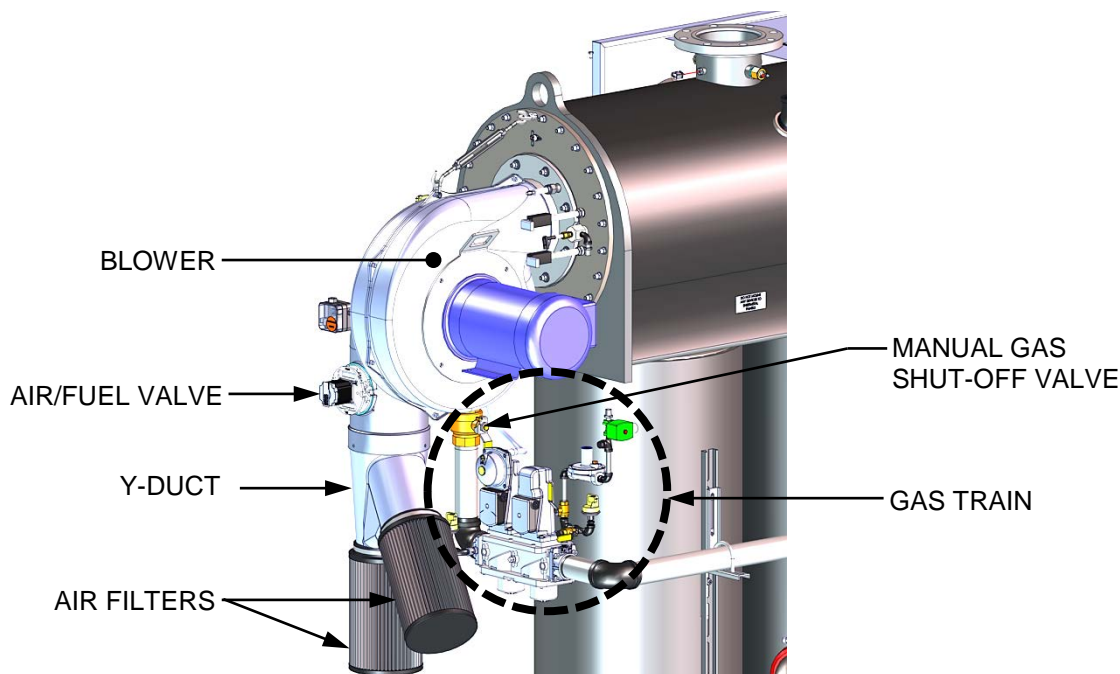
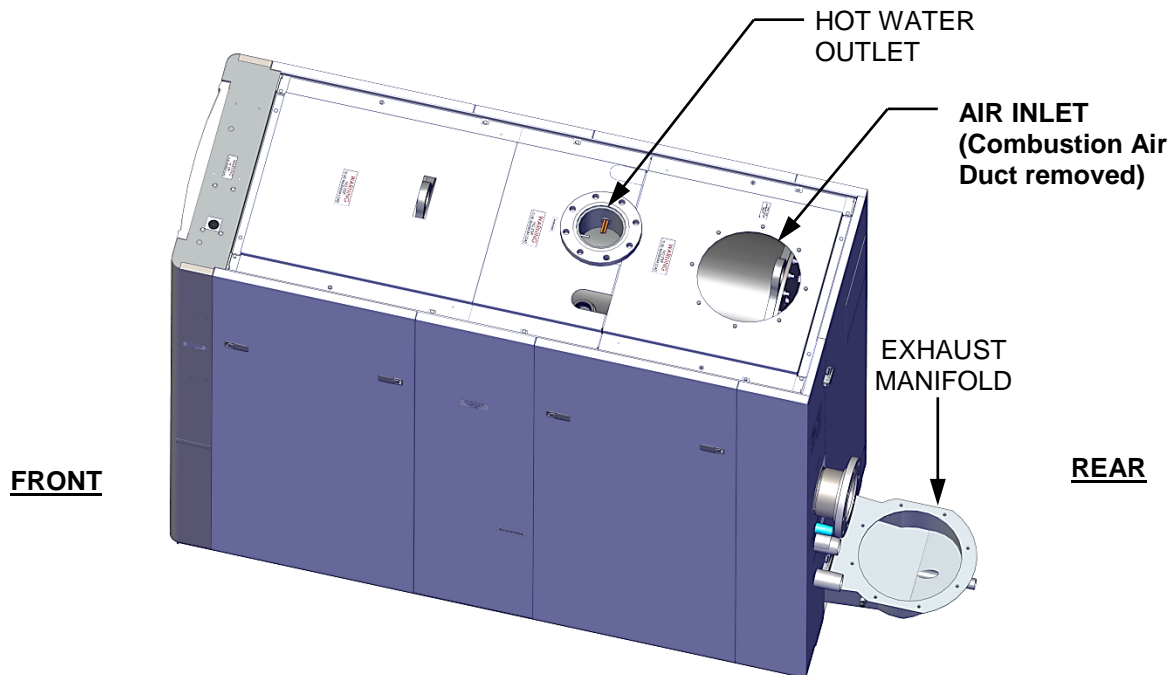

Figure 6-3: Bare Boiler – Partial View
Figure 6-5: Boiler Top View Showing Air Inlet Location
3. Close the manual gas shutoff valve located between the Safety Shut-Off Valve (SSOV) and the Air/Fuel Valve (see Figure 6-3).
8. Once flame is proven, close the manual gas valve located between the SSOV and the Air/Fuel Valve (Figure 6-3).
2. For units that get combustion air from a Combustion Air Duct, remove that duct, located on the top panel of the boiler (see Figure 6.5, below). For units that have an air filter in place of a Combustion Air Duct (not shown), remove the three (3) hex head screws securing the Y-Duct and air filters to the Air/Fuel valve (see Figure 6-3, above) and carefully remove the Y-Duct and air filter assembly.